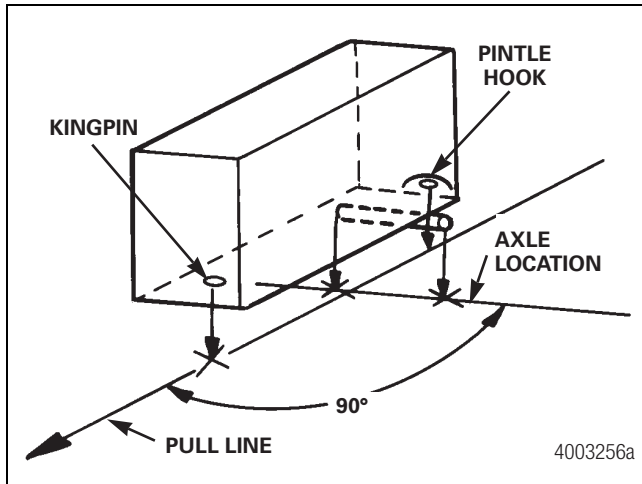

Figure 8.12
6. Hang plumb lines from the exact centers of the kingpin and pintle hook. Establish the trailer pull line by marking these points on the floor and snapping a chalk line through them. Figure 8.11 and Figure 8.12.